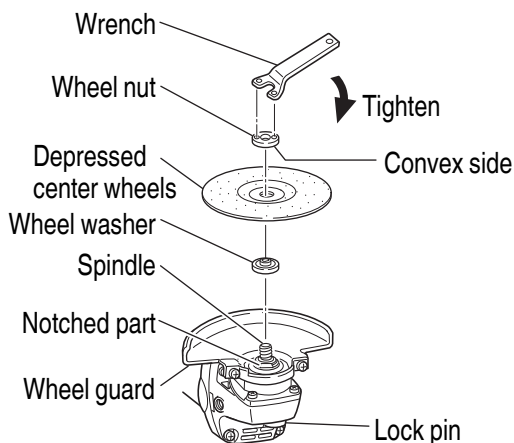

Fig. 2
ASSEMBLING AND DISASSEMBLING THE DEPRESSED CENTER WHEEL (Fig. 2)
- (1) Turn the equipment upsidedown so that the spindle will be facing up.
- (2) Mount the wheel washer onto the spindle.
- (3) Mount the protuberance of the depressed center wheel onto the wheel washer.
- (4) Mount the convex side of the wheel nut onto the depressed center wheel, and screw the wheel nut onto the spindle.
- (5) As shown in **Fig. 2** push in the lock pin to prevent rotation of the spindle. Then, secure the depressed center wheel by tightening the wheel nut with the wrench.